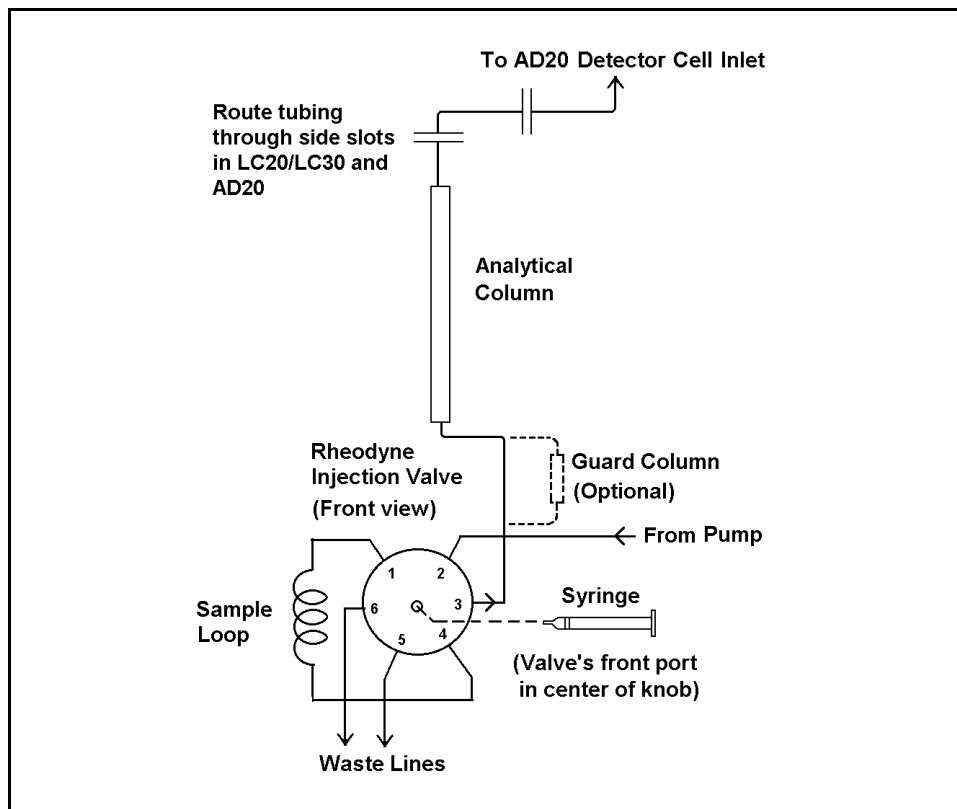

Figure B-3. AD20 Detector Cell Plumbing Schematic
3. A restriction often causes such high pressure that the entire system cannot be operated. Then you must work forward through the flow schematic (see Figures B-3 through B-7), adding parts one at a time until an abnormal pressure increase (and hence, the restriction) is found.
After determining the appropriate tubing size, you will need to cut the tubing to lengths required to plumb the system. Refer to the plumbing schematics in Figures B-3 through B-7 and to the example hardware configurations in Appendix F to determine the tubing requirements for your system. Before cutting any tubing, be sure it is long enough to allow servicing the system (e.g., you should be able to open the front door of the LC30 and slide the component panel out of the enclosure to its stop without putting stress on the tubing).
- *Absorbance*: Figure B-3 shows the plumbing configuration for systems that include an LC30 Chromatography Oven, an AD20 Absorbance Detector, and either a GP40 Gradient Pump or an IP20 Isocratic Pump.
- d. Connect the outlet of the separator column as specified for your system (refer to Figures B-3 through B-7).